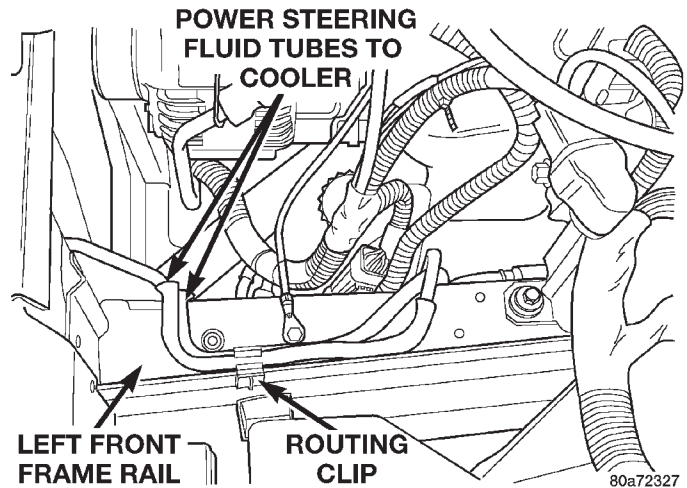

Fig. 31 Power Steering Fluid Cooler Tube Assembly
(12) Remove the power steering fluid to cooler tubes (Fig. 31) and the routing clip (Fig. 31) as an assembly from the left front frame rail. Pull the hose section of the cooler tubes through hole in radiator closure panel and into the engine compartment to remove the cooler tube/hose assembly from the vehicle.
(1) Install the power steering fluid to cooler tube assembly in vehicle using the reverse order of removal. Install the cooler line assembly routing clip (Fig. 31) on the left front frame rail.